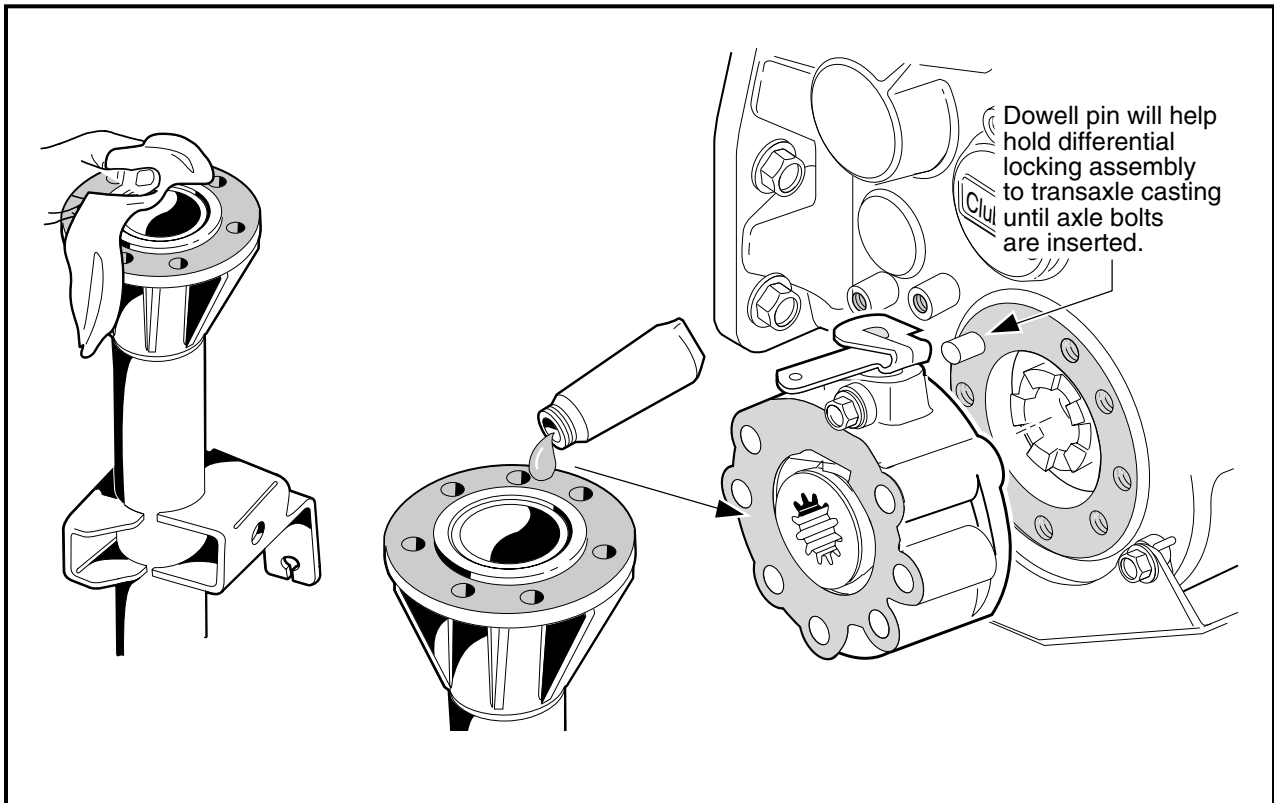

Figure 16a-90 Seal Axle Tube Surface
- 12.7. Install the left (driver side) axle shaft (90) in the left axle tube (92) (**Figure 16a-9, Page 16a-8**). Using 90° angle (0.090 tip) snap ring pliers, install the retaining ring as shown (**Figure 16a-92, Page 16a-41**).